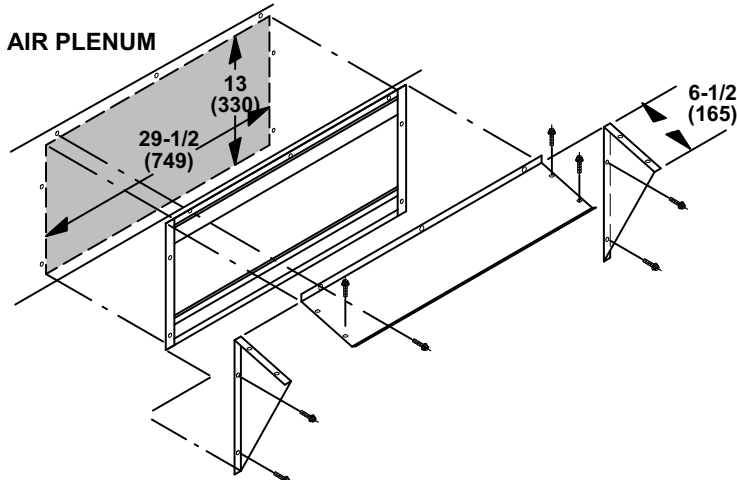

FIGURE 22
For horizontal applications, a separately ordered horizontal discharge kit is required. The horizontal, field-fabricated return air duct must be sized to accommodate the gravity exhaust damper and hood shipped with the economizer. A separately ordered low profile gravity exhaust damper (LAGEDH) and hood kit is available for size restricted applications. See figure 22.
- 2 - Secure hood sides to hood top as shown in figure 22.
- 5 - Slide combined exhaust damper assembly into plenum opening and secure using screws provided. See figure 22.